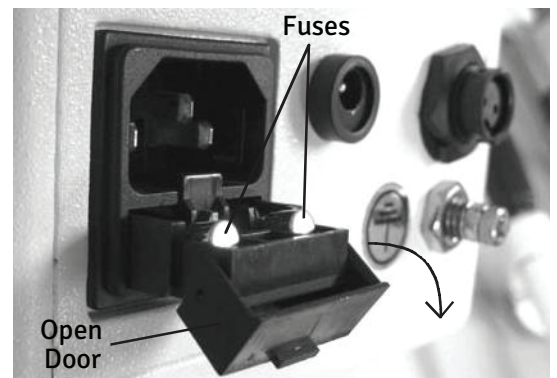

Figure- 38 Open Fuse Door
3. Open the Door to the Fuse Holder by pulling it down. Refer to figure-38.